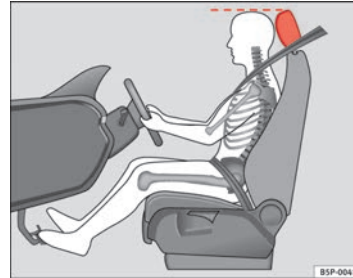

Fig. 2 Proper head restraint position for driver
- Adjust the head restraint so that its upper edge is at the same level as the top of your head, or as close as possible to the same level as the top of your head ⇒ Fig. 2.